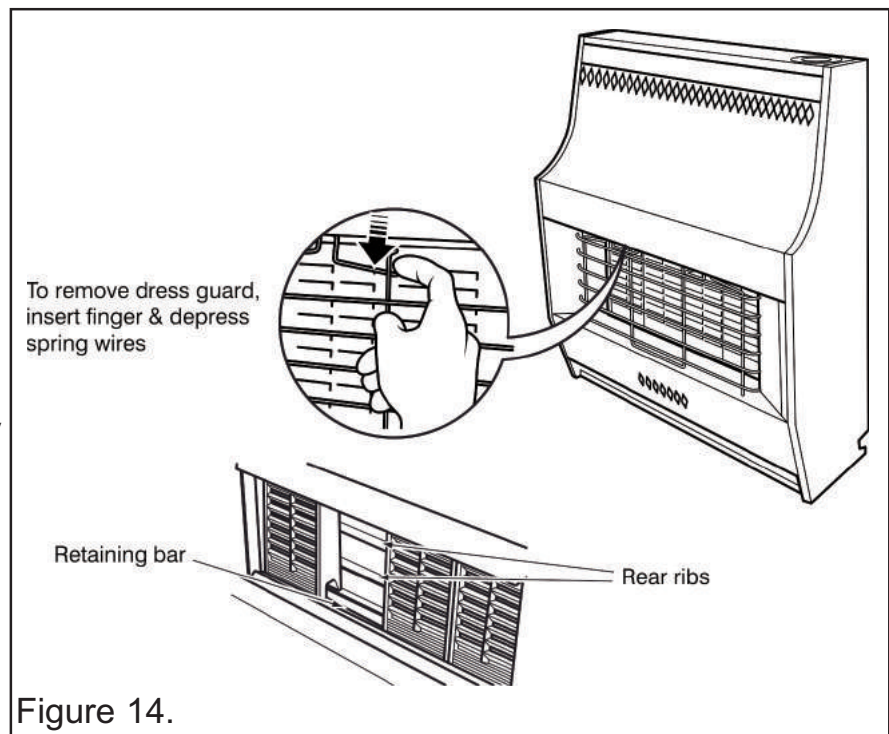

Figure 14.
4. Replace in the reverse order. Make sure that the channel near the top of the rear of the fascia locates fully into the wings of the engine back panel (See figure 14). Make sure that the radiants are not dislodged when refitting the fascia.